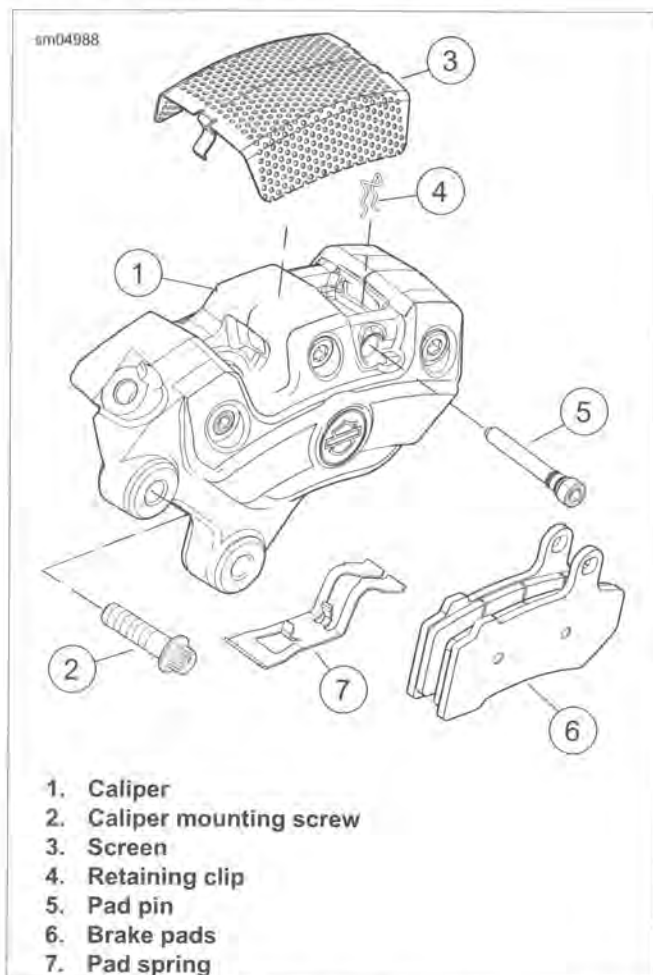

Figure 2-46. Front Brake Caliper Assembly
- See Figure 2-46. Remove two caliper mounting screws (2) and remove caliper from brake disc.